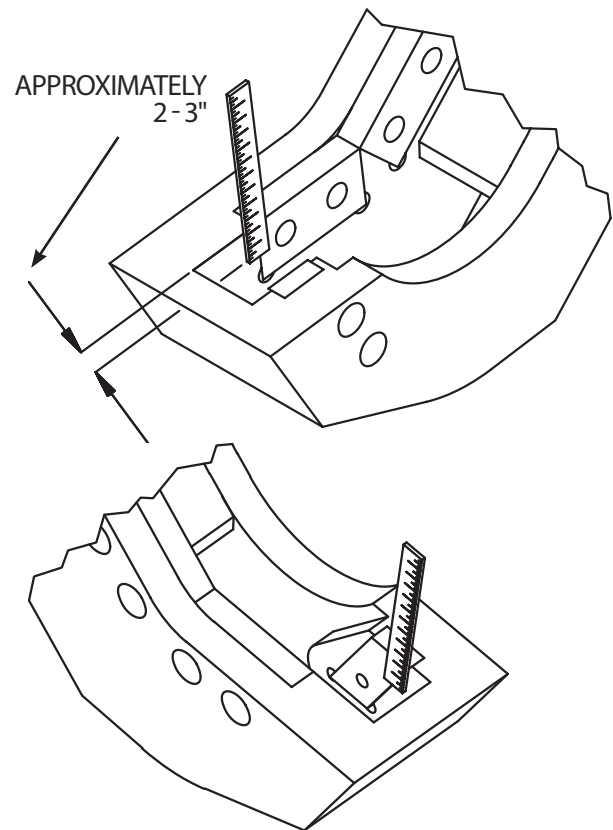
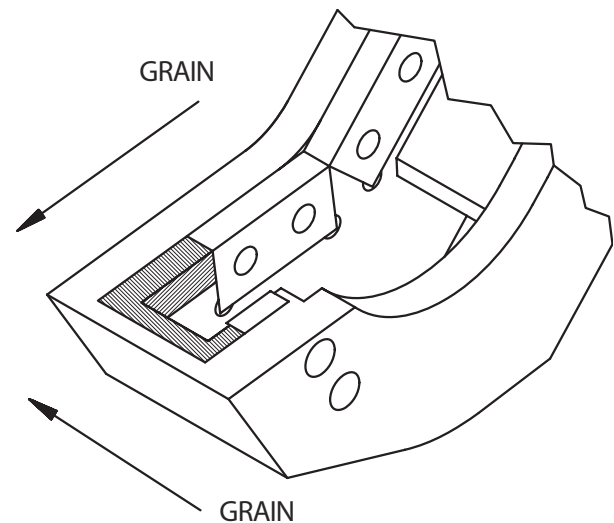

FIGURE 5-12
FIGURE 5-13
7. Hardsurface the top side of lower 1½ - 2" (38 - 50 mm) wide (figure 5-12) using the same preheating, welding and peening procedure. Be sure to weld with the grain of the steel (see figure 5-13).